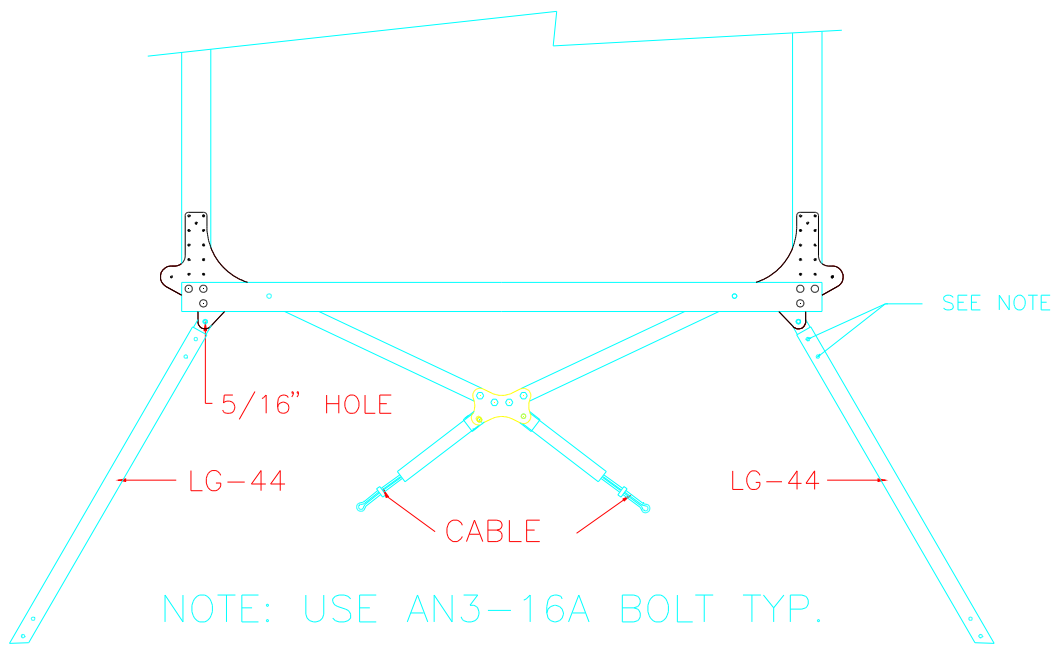

Figure 15.1.7
11) Put a small amount of grease on each side of the top hole in the main gear leg assembly (LG-44) and attach to the cage with AN5-16A bolts. Do not over tighten. Legs must swing freely. Figure 15.1.7.